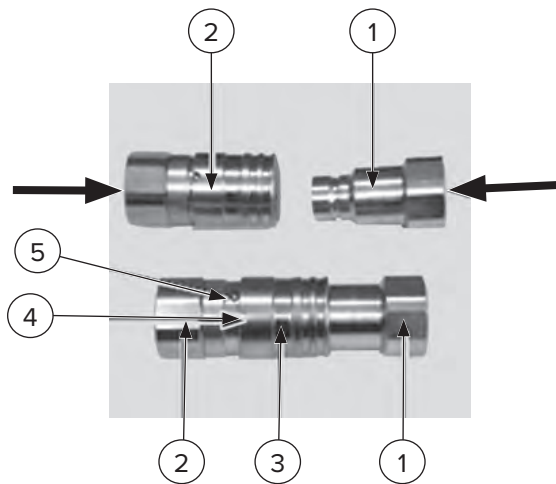

Figure 5
1. Push the male section [Figure 5, Item 1] into the female section [Item 2] until it clicks into place in the ring nut [Item 3].
**NOTE:** Figure 5 shows flat-faced quick couplers with a snap-fastening safety ring nut.